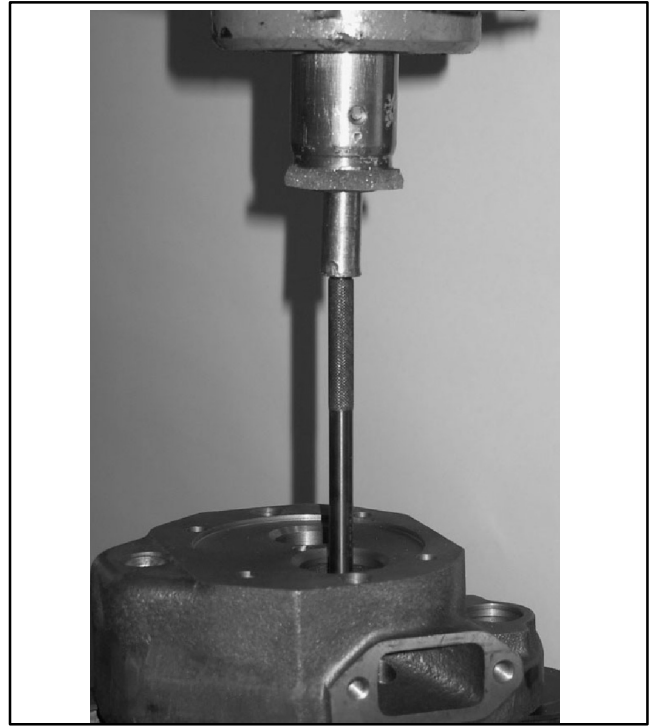

Figure 10-35 Valve Guide
1. If valve guide replacement is necessary, use the proper driver and press out the old guides from the head. See Figure 10-35.